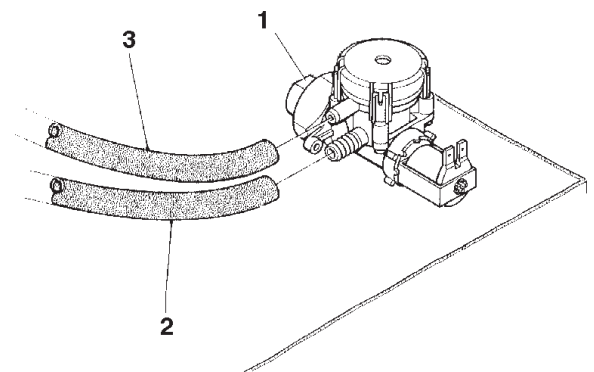

Fig. 13
Use a hose (also available as a kit) capable of withstanding the water mains pressure and suitable for use with foodstuff (min. inside diameter of 6 mm) to connect the water supply to the union (3/4" gas) of the water inlet solenoid valve (see Fig. 13).
The water inlet solenoid valve (see Fig. 13) is equipped with an overflow device which mechanically stops the water inlet if there is a malfunction in the solenoid valve or in the boiler water level control device.
- loosen the nut which secures the solenoid valve supply hose to relieve the water mains residual pressure and then tighten again (see Fig. 13);